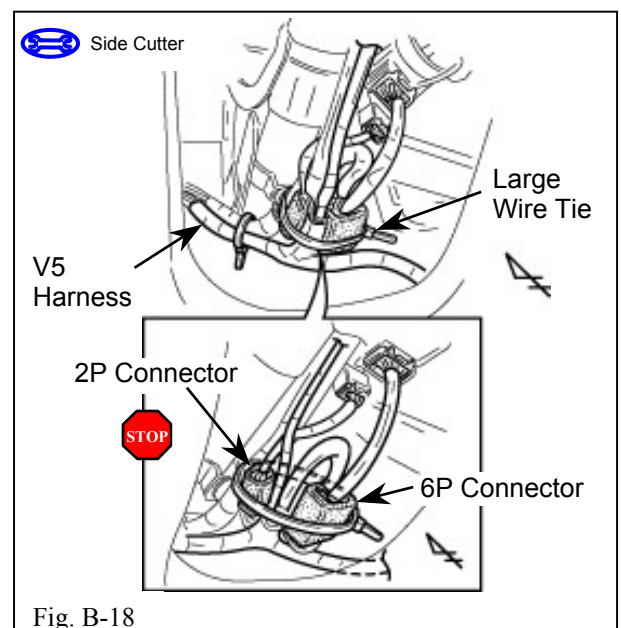

Fig. B-18
25. Secure the 2P and 6P connectors and V5 harness to the vehicle harness with one large wire tie. (Fig. B-18)